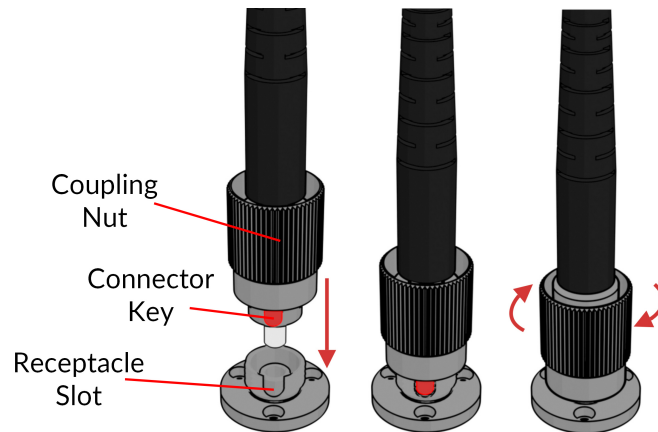

Figure 3.3: FC connector, Fiber Installation
2. With an FC connector, the connector key must be oriented to enter within the receptacle slot to ensure proper connection (Fig. 3.3).